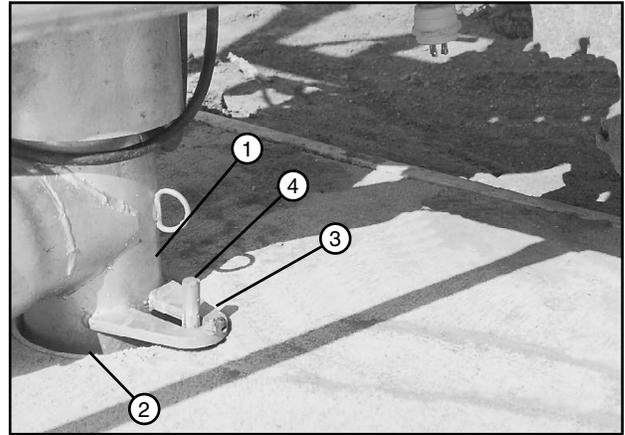

Figure 51-1 1. Riser Pipe 2. Anchor Pipe 3. Slotted Ear 4. Stud
17. Align and lower the riser pipe into the anchor pipe. Be sure the slotted ears on the riser pipe align with the studs in the pivot pad. In addition, the slotted ear on the Stop-In-Slot and End Gun Shutoff bracket must be positioned on the "T" bracket. See Figure 51-1.